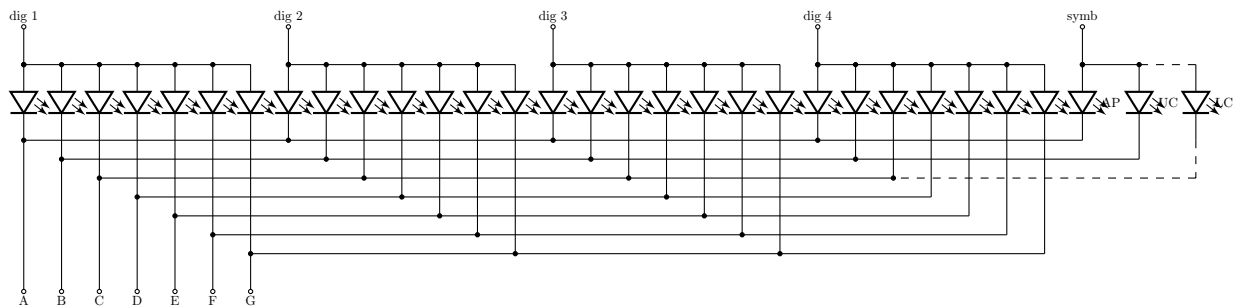

Figure 6: A 4-digit common anode display with a separate symbol digit pin for colon and apostrophe
Additional digit pin for colon and apostrophe. On these kind of displays a separate digit pin “symb” is used for symbols: apostrophe (AP) and colon (UC and LC if split in two). The symbols share segment pins with the usual segments A-G. See Fig. 6. These displays are configured by `setSymbPins()`.